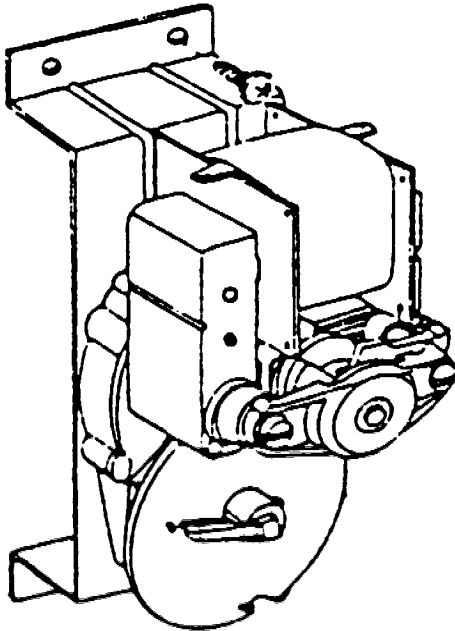

Figure 12
1. Narrow Columns See figure 12 below.
- a. Remove the top two (2) screws that secure the narrow column vend motor to the stack.
- b. Install the two (2) new screws (#8-32 x 5/8") in place of the screws removed in Step 1a.